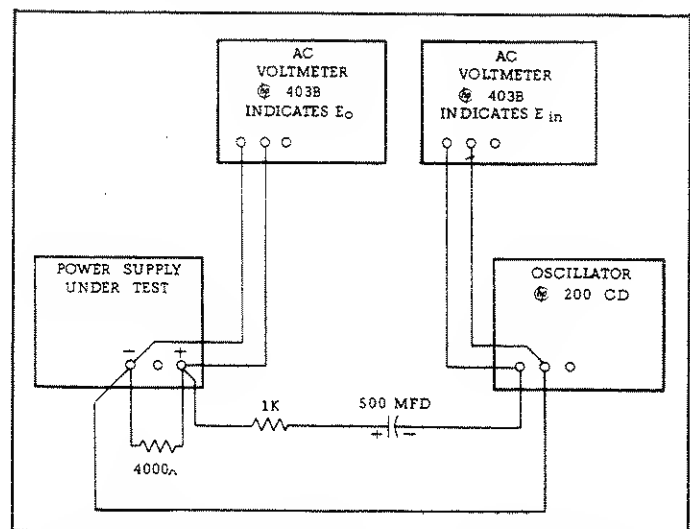

Figure 5-3. Output Impedance, Test Setup Diagram
- Connect test setup shown in Figure 5-3.